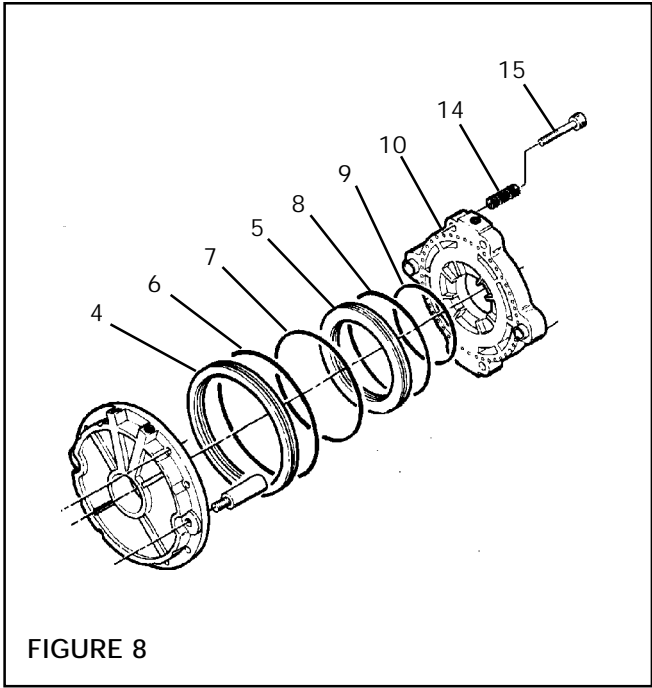

**FIGURE 7**
1. Remove four Socket Head Cap Screws (Item 25) and two Socket Head Cap Screws (Item 24) (See Fig. 7)